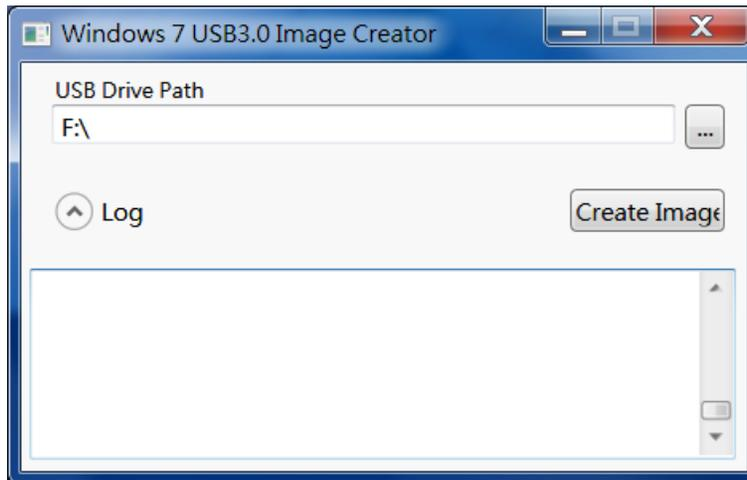

Figure 4-20: Windows 7 USB 3.0 Creator Utility
- Step 6:** The Windows 7 USB 3.0 Creator Utility screen appears (**Figure 4-20**). Click  to browse to the root of the USB drive containing the Windows 7 image.